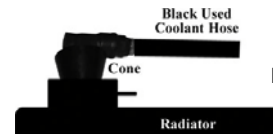

Figure 3
- 8) Insert cone tip into radiator neck or coolant reservoir tank opening and open **BLACK/USED** coolant flow control valve. The vacuum will securely seat and seal the cone into the opening and used coolant will begin to be extracted from the cooling system. (Fig 3)